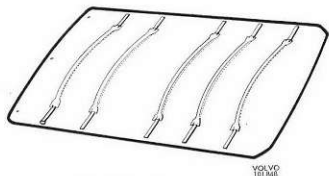

Fig. 8-52. Headlining, 142 and 144
5. Fit the stretchers in the new headlining. Make sure that they are provided with rubber caps at the ends as shown in Fig. 8-52.